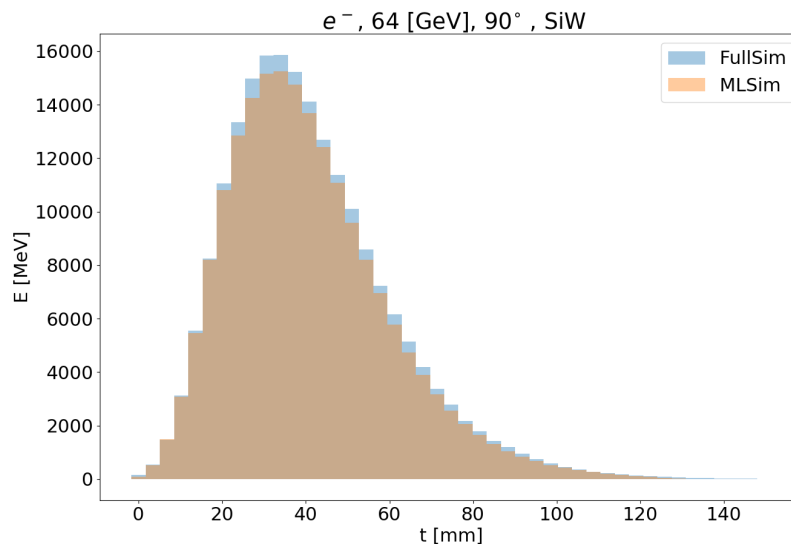
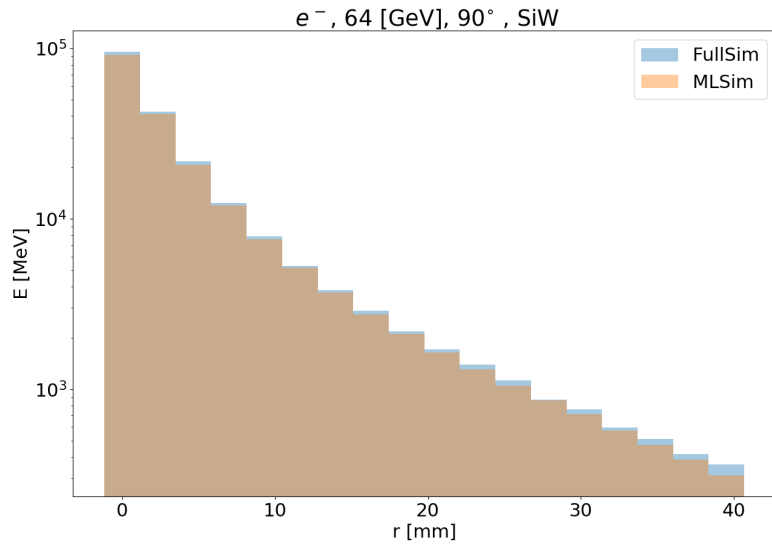
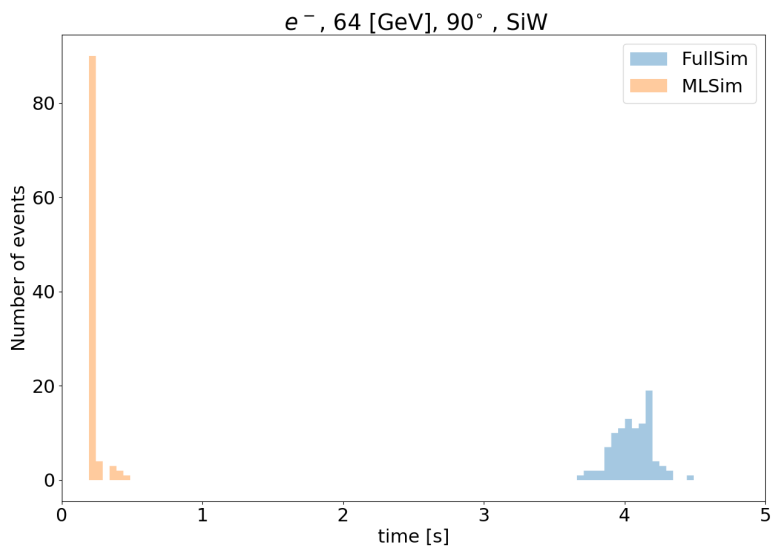

Fig. 11.3: Longitudinal profile for 64 GeV electrons.
Fig. 11.4: Transvers profile for 64 GeV electrons.
Fig. 11.5: Simulation time for 64 GeV electrons.
The three figures below show the validation plots comparing the full simulation to the (ML) fast simulation after using the inference with ONNX. The plots show the longitudinal (Fig. 11.3), transverse profiles (Fig. 11.4) and simulation time (Fig. 11.5) for 64 GeV particles with an angle of 90 degrees.